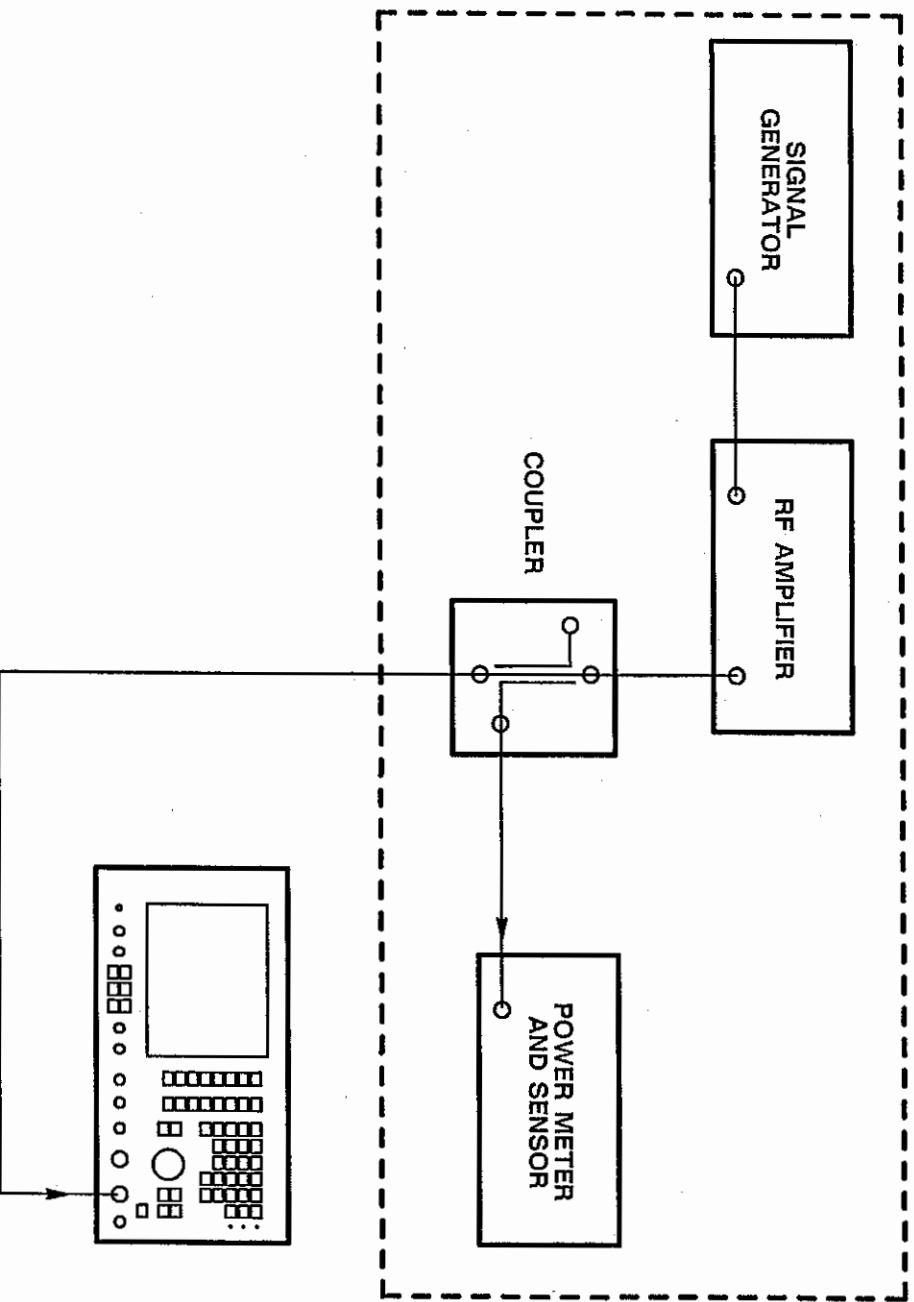

Fig. 6-19 Test equipment connections for RF power meter level and frequency response
- (1) Connect the signal generator through the RF amplifier to the high frequency coupler. Connect the power meter through its sensor to the coupler. Connect the coupler output to the RF IN/OUT N socket. See Fig. 6-19.
- (2) On the 2955A, set the MODE to TRANSMITTER TEST and RF IN/OUT socket to N.
- (3) On the signal generator, set the frequency to 100 MHz and the level so that the reading on the power meter is 2 W.
- (4) Check that the TX POWER reading is the same as the power meter reading  $\pm 10\% \pm 1$  digit.
- (5) On the signal generator, set the level so that the reading on the power meter is 220 mW.
- (6) Check that the TX POWER reading is the same as the power meter reading  $\pm 10\% \pm 1$  digit.
- (7) Repeat (3) to (6) at other frequencies between 100 and 500 MHz.
- (8) Repeat (3) to (6) at other frequencies between 500 and 960 MHz except check that the TX POWER readings are the same as the power meter readings  $\pm 15\% \pm 1$  digit.
- (9) Repeat (3) to (6) for other frequencies between 960 and 1000 MHz except check that the TX POWER readings are the same as the power meter readings  $\pm 20\% \pm 1$  digit.